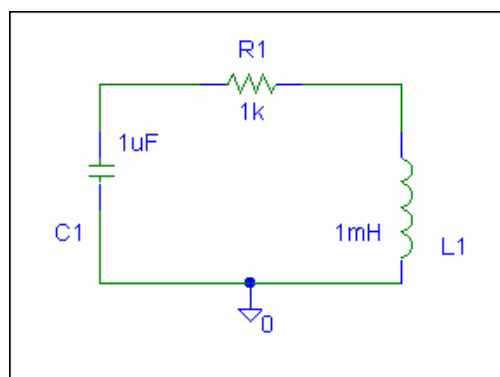

Figure D-2
*Damped Oscillation:* The circuit we modeled above is unrealistic because it has no resistance at all. This is analogous to a mechanical system with no friction. To make a more realistic system, we must add some resistance, as shown in figure D-2.